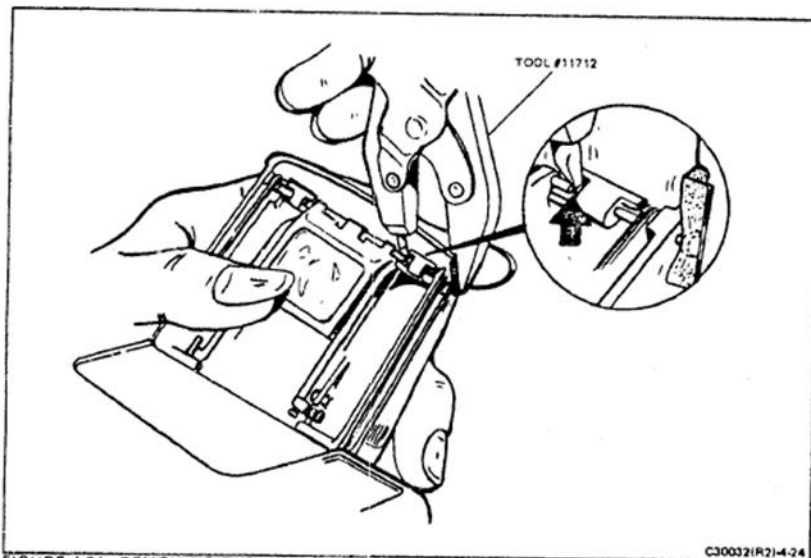

FIGURE 4-24 REMOVING EYELENS PIVOT PIN
- b. Using Special Tool #11712 (Figure 4-24) press out either end of the three-piece pivot pin until the pin emerges far enough to allow the insertion of a jeweler's screwdriver underneath the head of the protruding pin. Pry the pin all the way out with the screwdriver.
- b. Using Special Tool #11712 (Figure 4-24) press out either end of the three-piece pivot pin until the pin emerges far enough to permit inserting a jeweler's screwdriver underneath the head of the protruding pin. Pry out the pin with the screwdriver.